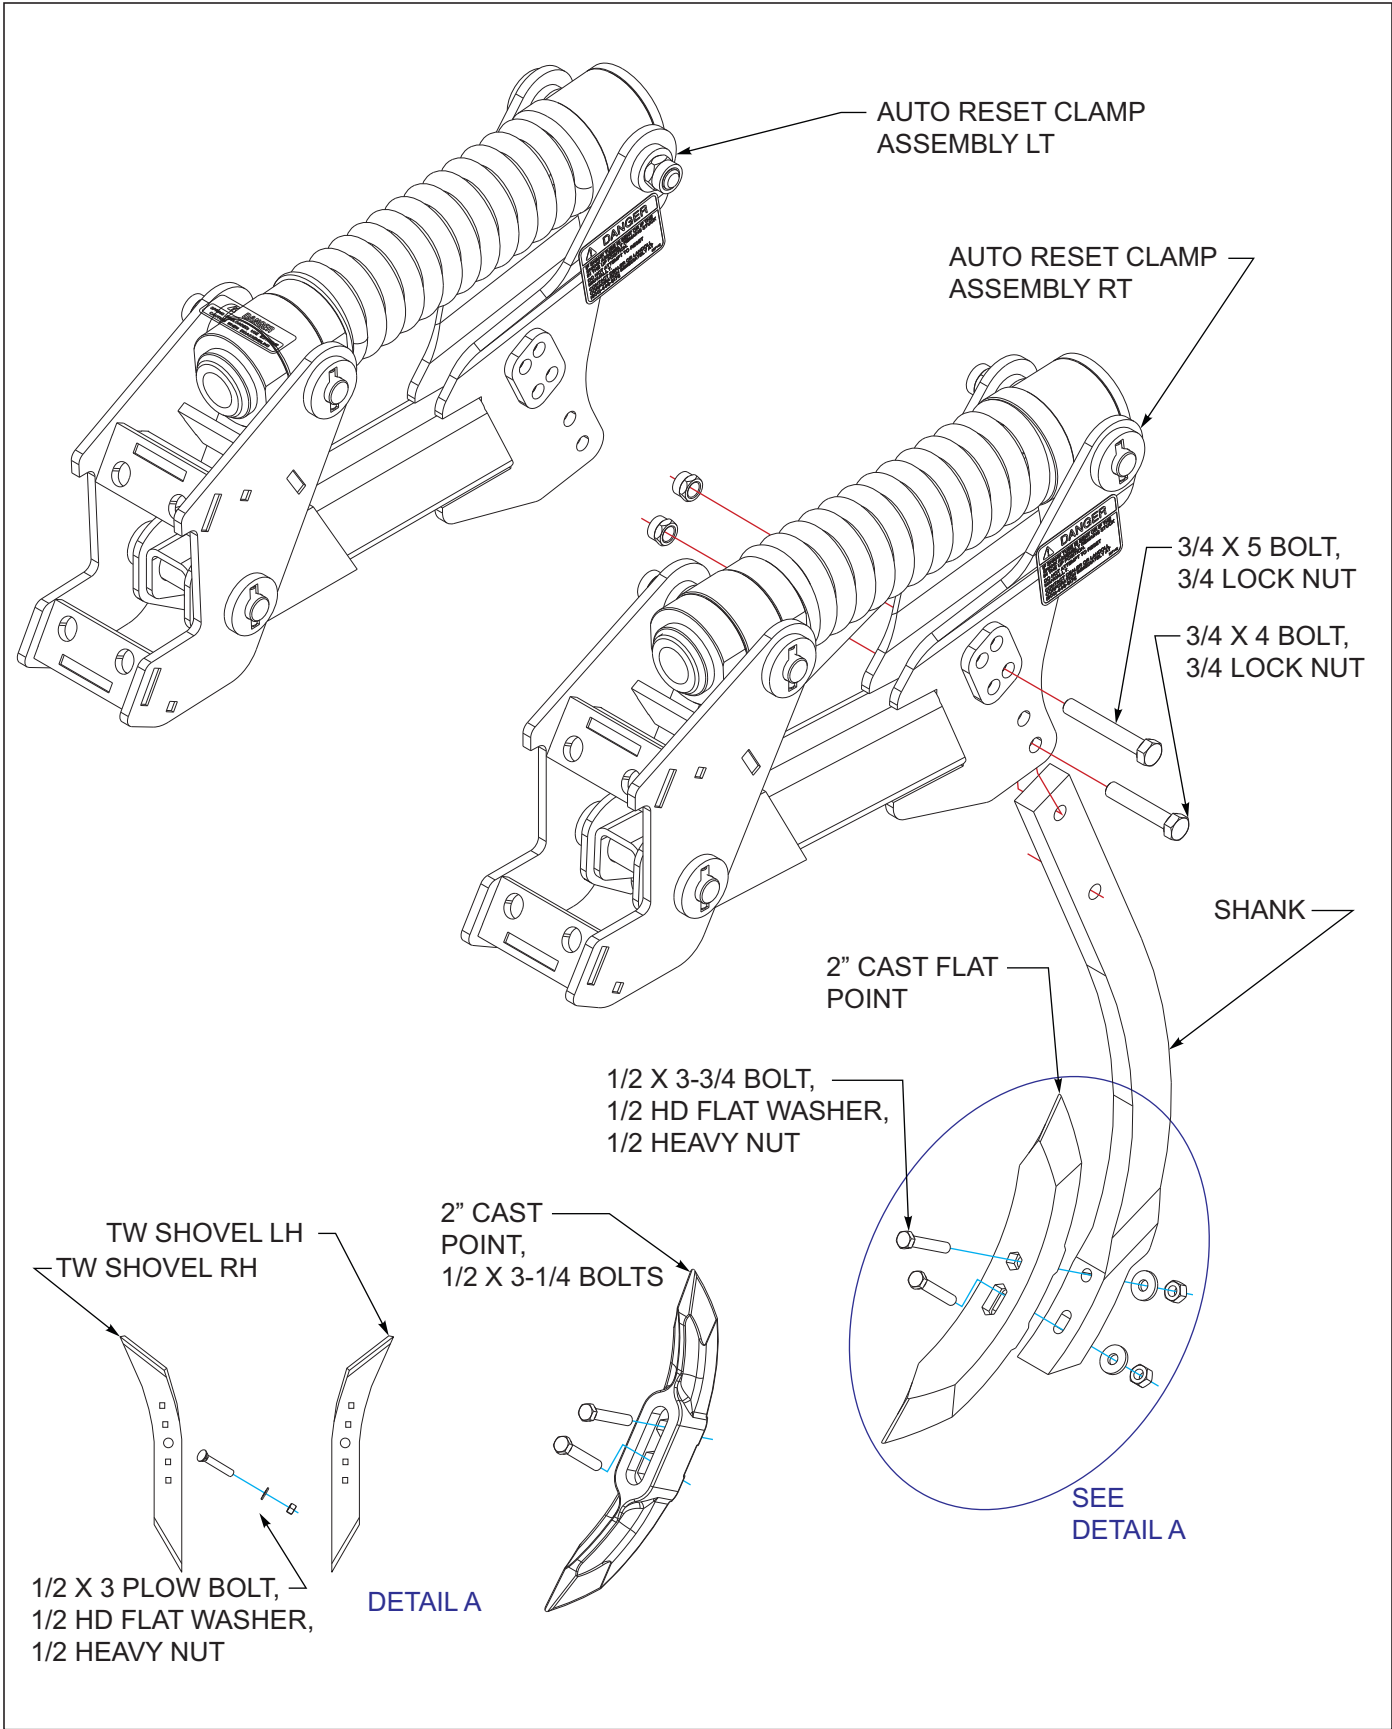

Figure 3-8: Auto Reset Shank and Shovel Installation
1. Attach each shank to each auto reset clamp assembly using 3/4 x 4 bolt, lock nut in bottom hole and 3/4 x 5 bolt, lock nut in top hole See Figures 3-8.